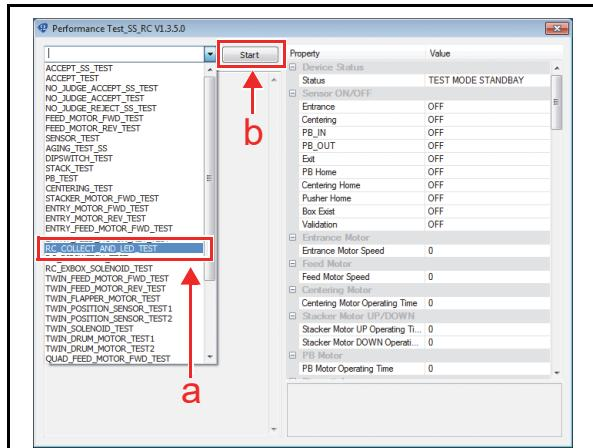

**Figure 6-30** Launch Performance Test Program 3
9. The Performance Test Main Screen will appear (Figure 6-30).